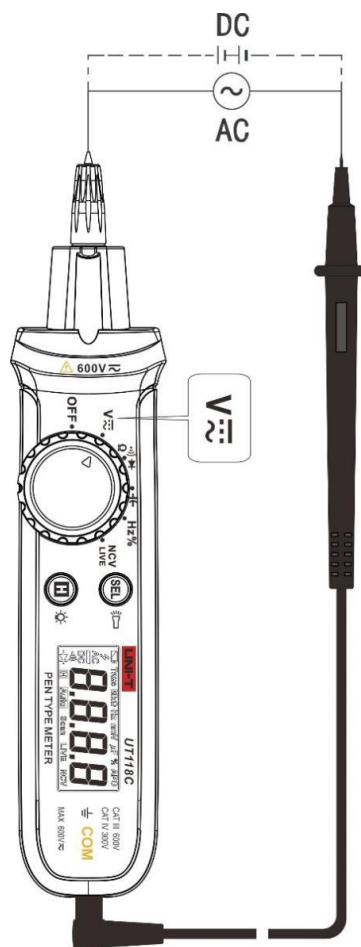

Figure 3
11.1 Mesure de la tension DC/AC (Figure 3)